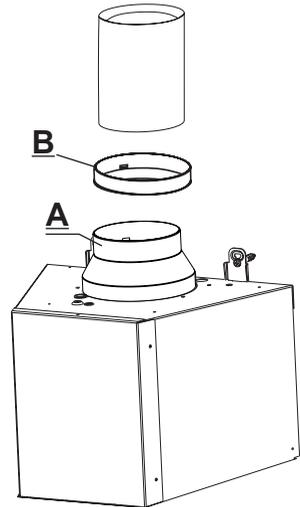

Fig. 11
The diameter of the spigot on top of the hood is 150mm (6ins). When 125mm ducting is to be used it will be necessary to install the ducting adapter (A) 150mm (6ins) to 120mm (5ins) and the ducting collar (B) 120mm to 125mm as illustrated in Fig. 11.